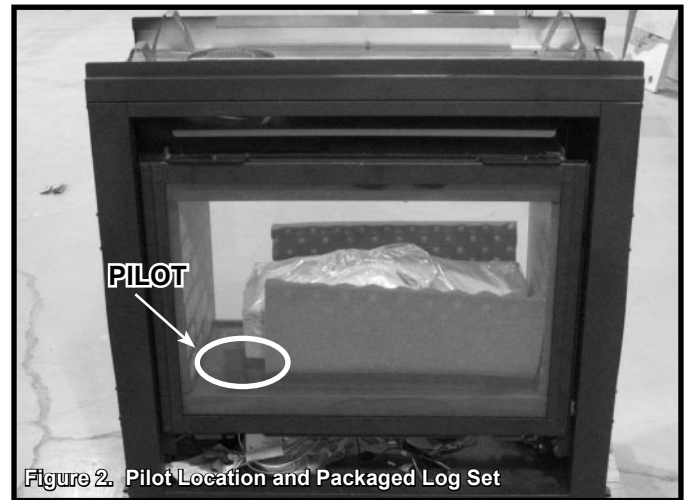

Figure 2. Pilot Location and Packaged Log Set
STEP 1. CAUTION! Logs are fragile! Carefully remove the microfoam and packaged logs from the inside of the fireplace. See Figure 2. Remove the Mystic Embers and mineral wool and set aside. Remove the packaging from the logs and inspect the logs for damage. To ensure that you are working on the correct side of the appliance, verify that the pilot is on the left side. See Figure 2.